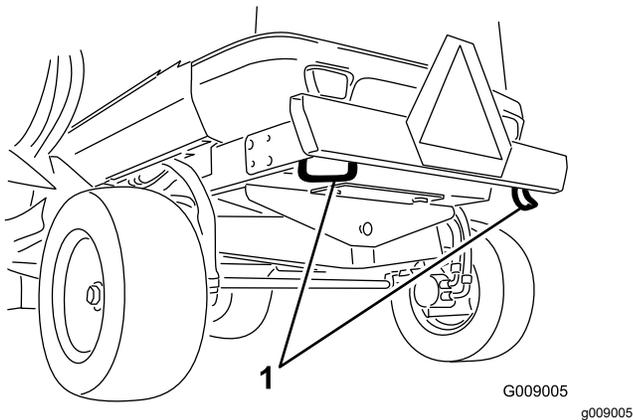

**Figure 72**
**Front of the machine**—under the front of the operator's platform (Figure 72)